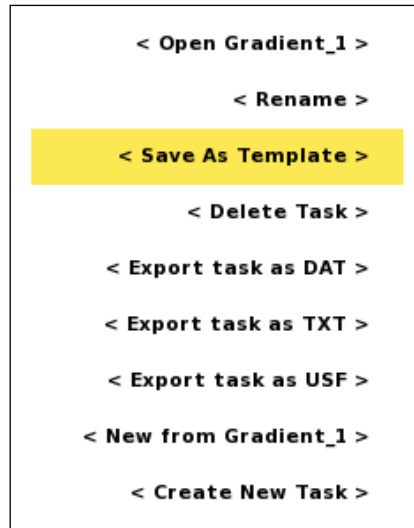

Figure 25 Task Option menu with the Save As Template item highlighted
A *Template* can only be created from the “Projects/Task List” Page using the *Task* option menu (Figure 25).
- Move the highlight the <Save as template> item (Figure 25)